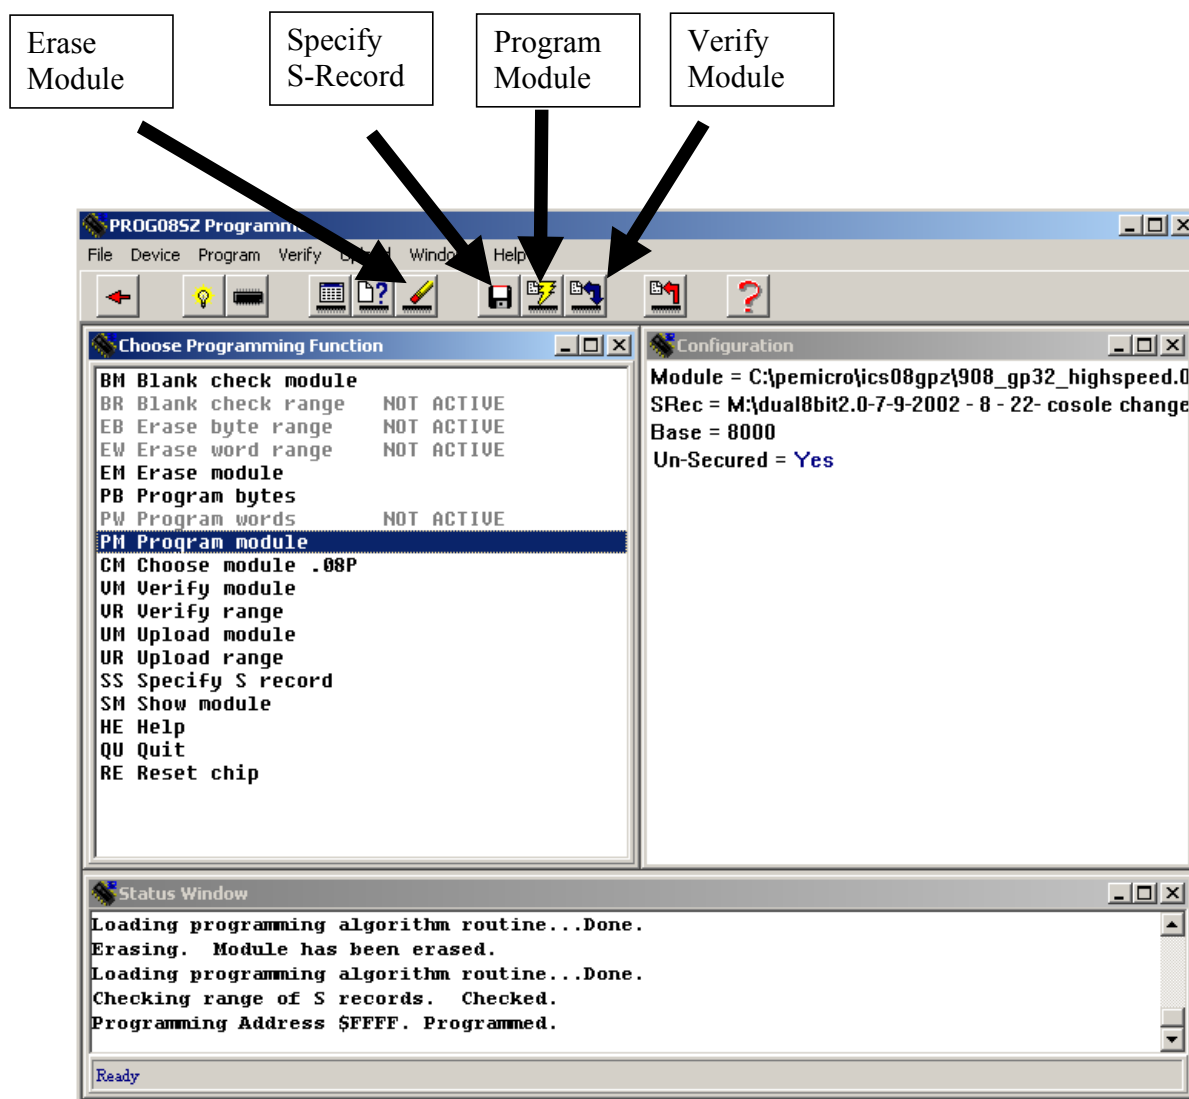

Figure 1. Programming Software
8. Click "Erase Module" to remove existing software. (See Figure 1.)